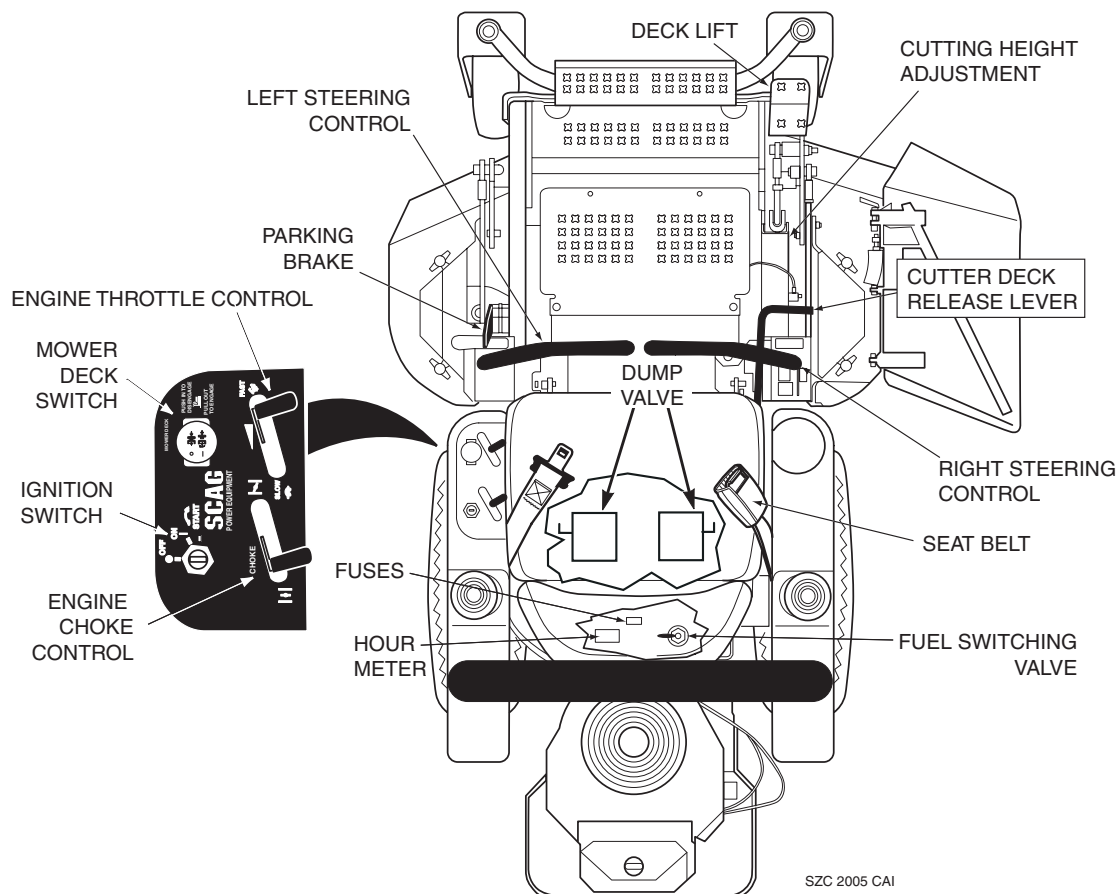

Figure 4-1 Controls and Instruments
1. **Ignition Switch (Figure 4-1).** Used to start the engine and has three positions; OFF, ON, and START.
2. **Mower Deck Switch (Figure 4-1).** Used to engage and disengage the mower drive system. Pulling up on the switch will engage the deck drive. Pushing down on the switch will disengage the deck drive.
3. **Engine Choke Control (Figure 4-1).** Used to start a cold engine.
4. **Engine Throttle Control (Figure 4-1).** Used to control the engine speed. Pushing the lever forward increases engine speed. Pulling the lever back decreases engine speed. Full backward position is the IDLE position. Full forward is the cutting position.
5. **Hourmeter (Figure 4-1).** Indicates the number of hours the engine has been operated. It operates whenever the ignition key switch is in the ON position. Has preset maintenance reminders for engine and hydraulic system oil changes. Will start flashing scheduled maintenance 2 hours before preset time and continue flashing until 2 hours after. Automatically resets.
6. **Fuse Holders (Figure 4-1).** Two 20-amp fuses protect the mower's electrical system. To replace fuses, pull fuse out of the socket and install a new fuse.
7. **Left Steering Control (Figure 4-1).** Used to control the mower's left wheel when traveling forward or reverse.
8. **Right Steering Control (Figure 4-1).** Used to control the mower's right wheel when traveling forward or reverse.
9. **Parking Brake Control (Figure 4-1).** Used to engage and disengage the parking brakes. Pull the lever back to engage the parking brakes. Push the lever forward to disengage the parking brakes.
10. **Fuel Switching Valve (Figure 4-1).** Located on the left side of the machine. Used to shut off fuel supply to the engine and change fuel supply between the fuel tanks. Rotate the valve counter-clockwise to supply fuel from the tank on the left side only. Rotate the valve clockwise to supply fuel from the tank on the right side only.
12. **Deck Lift Foot Lever (Figure 4-1).** Used to raise and lower the cutter deck.
13. **Cutting Height Adjustment (Figure 4-1).** Used to set the cutter deck at the desired cutting height.
14. **Cutter Deck Release Lever (Figure 4-1).** Used to lock the cutter deck in the transport position. Push the foot pedal forward and lift up on the release lever to release the cutter deck for normal mowing.
15. **Seat Belt (Figure 4-1).** Used to secure the operator. Seat belt must be worn at all times during operation.